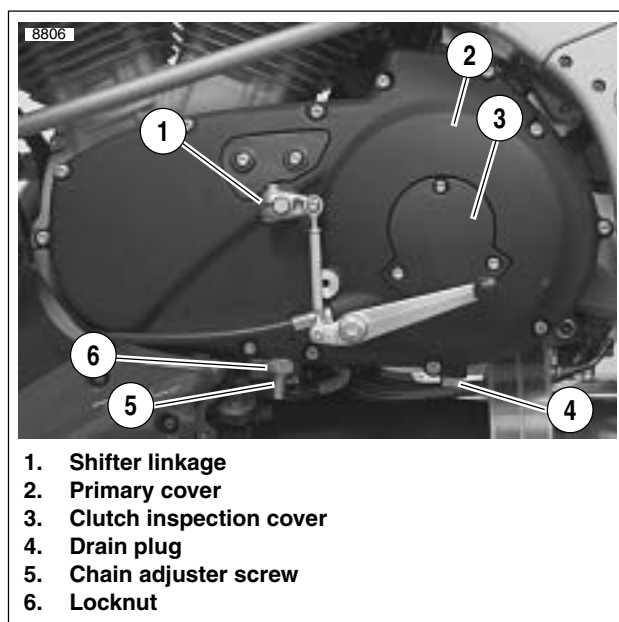

Figure 6-1. Removing Primary Cover
4. See Figure 6-1. Place a drain pan under the engine/primary area. Remove drain plug (4) and drain lubricant from primary drive.
7. See Figure 6-1. Loosen locknut (6). Turn chain adjuster screw (5) counterclockwise to remove tension on primary chain.
9. See Figure 6-1. Remove clutch inspection cover (3).